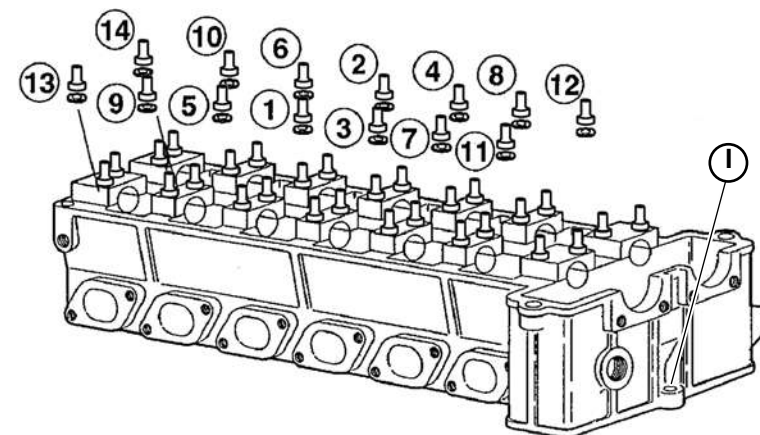

Fig.10
9. Unscrew the bolt (I-**Fig.10**).
10. Unscrew the mounting nuts and remove the head (**Fig.10**).